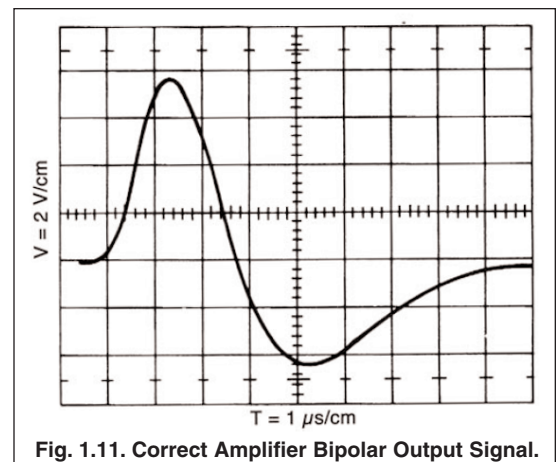

Fig. 1.11. Correct Amplifier Bipolar Output Signal.
6. With all other settings the same, connect the oscilloscope CH1 Input to the 575A Bipolar OUTPUT. The correct output pulse should look like the signal shown in Fig. 1.11. (Re-trigger the oscilloscope if necessary).